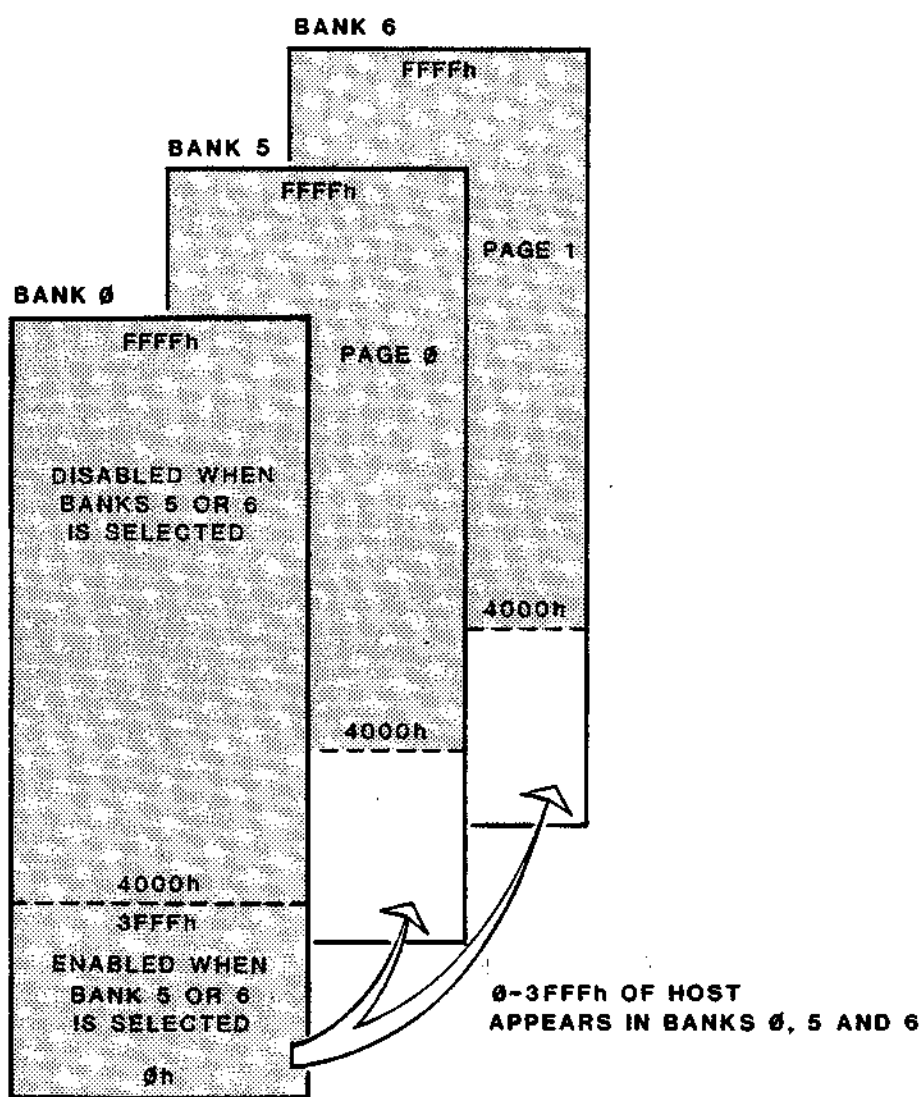
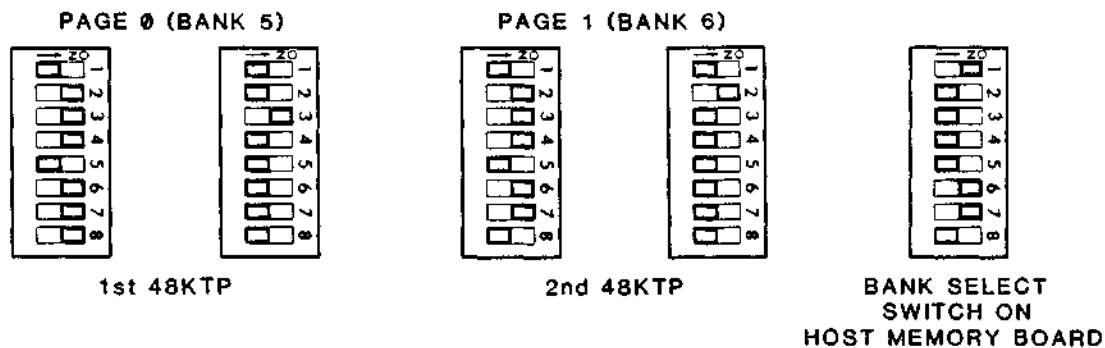

Figure 3 - System with Two 48KTPs
Figure 4 - Switch Settings
For most applications (and in particular when using Cromemco software) a standard system configuration with regard to bank placement and switch settings should be observed. In this configuration, the main user bank (hereafter referred to as host memory) appears in bank 0. If one page of 48KTP memory is used it should appear in bank 5 and from the point of view of the SDI appear as page 0. If a second page of 48KTP memory exists, this board should be set to bank 6 and appear to the SDI as page 1. Both 48KTP boards (if two are present) should be addressed from 4000H to FFFFH, i.e., the upper 48K of memory. Finally, because of the 48KTP's special memory disable feature, the host bank, bank 0, should be set to appear also in bank 5, if one 48KTP is present, or banks 5 and 6, if two 48KTP's are present. This apparent memory overlap is allowed because the 48KTP disables all memory which lies in its bank and memory block while the 48KTP is being written into. This system configuration is summarized in Figure 3 and Table 1. The switch settings for this configuration are shown in Figure 4.
2. Copy the switch settings of figure 4 onto the (both) 48KTP and also onto the bank select switch of the host memory card(s).